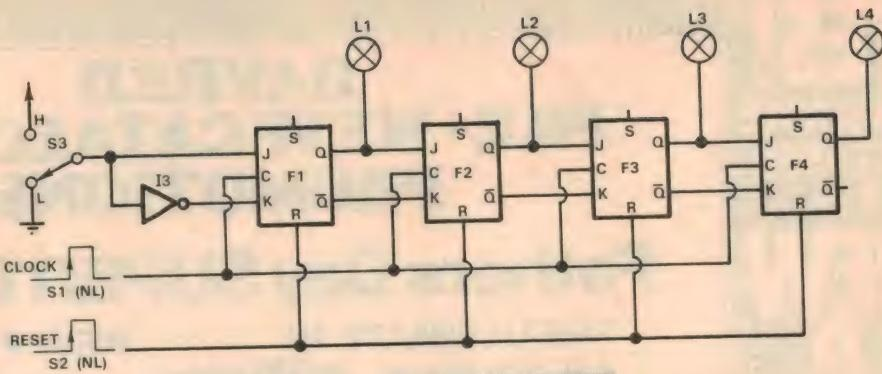

FIG. 2 : 4-BIT SHIFT REGISTER
The second major use of flipflops is to form shift registers. Fig. 2 shows how this is done. As before, the Q outputs are connected to the indicating LEDs. The clock inputs of all the flipflops are connected together, and the resulting "clock line" is connected to the normally low (NL) output of S1. The "reset line", formed by connecting all the reset inputs together, is connected to the NL output of S2.